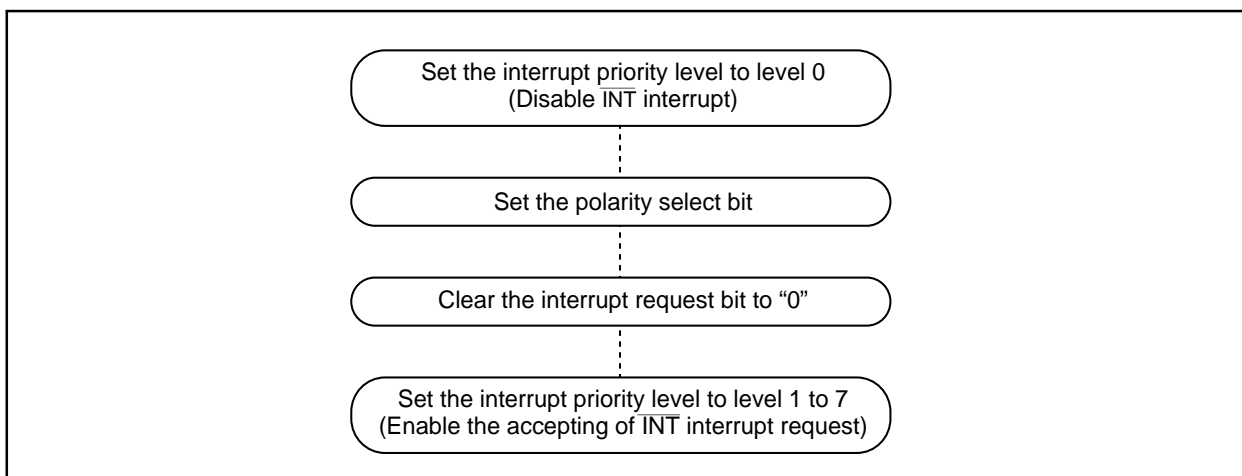

Figure 1.27.2. Switching condition of  $\overline{\text{INT}}$  interrupt request
- When the polarity of the INT0 to INT5 pins is changed, the interrupt request bit is sometimes set to "1". After changing the polarity, set the interrupt request bit to "0". Figure 1.27.2 shows the procedure for changing the  $\overline{\text{INT}}$  interrupt generate factor.